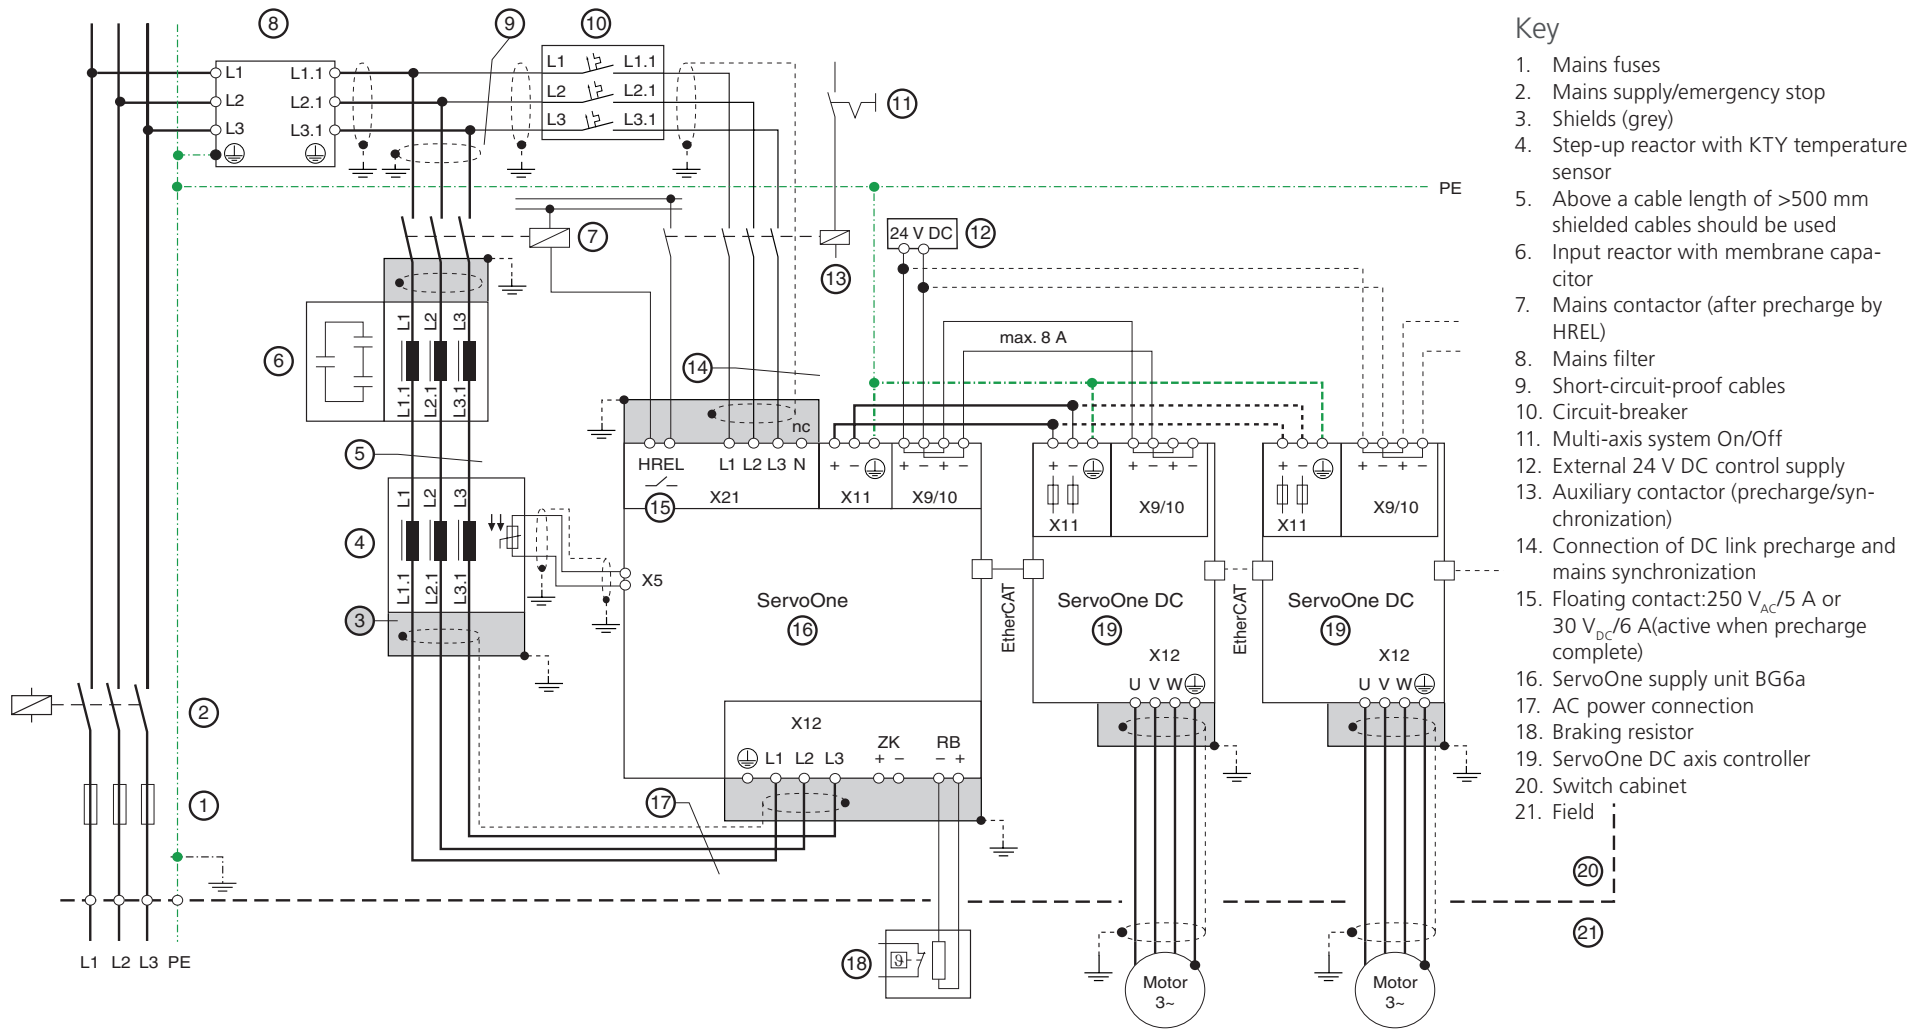

Figure 3.7 Overview, supply unit connection diagram (schematic view)
- Use shielded mains, motor and signal cables, as shown in Figure 3.7, p. 29. Use a cable type with double copper braiding, with 60 - 70% coverage, for all shielded connections.